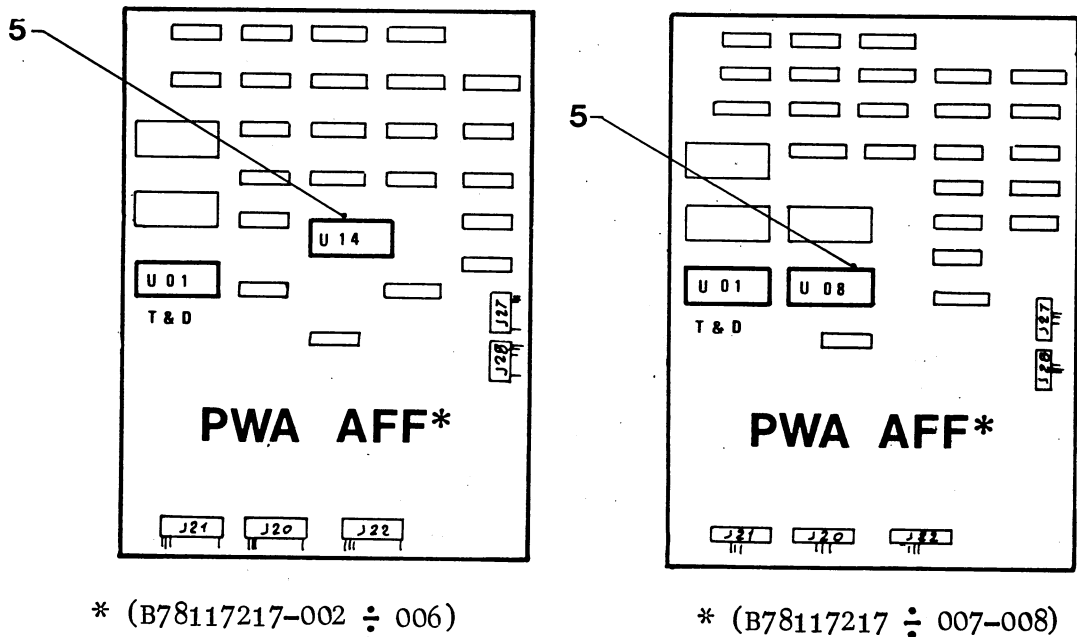

Fig. 7-25 F/W EPROM Localization on the AFF PWA
- When the involved unit features the AFF option, the fifth F/W EPROM is surely mounted on the PWA AFF (See fig. 7-25)
- The diagnostic option is always mounted on the PWA AFF or on the PWA AFF-E (if 2K Memory EPROM) if the AFF option is present (Automatic Front Feed). (See fig. 7-25/26).